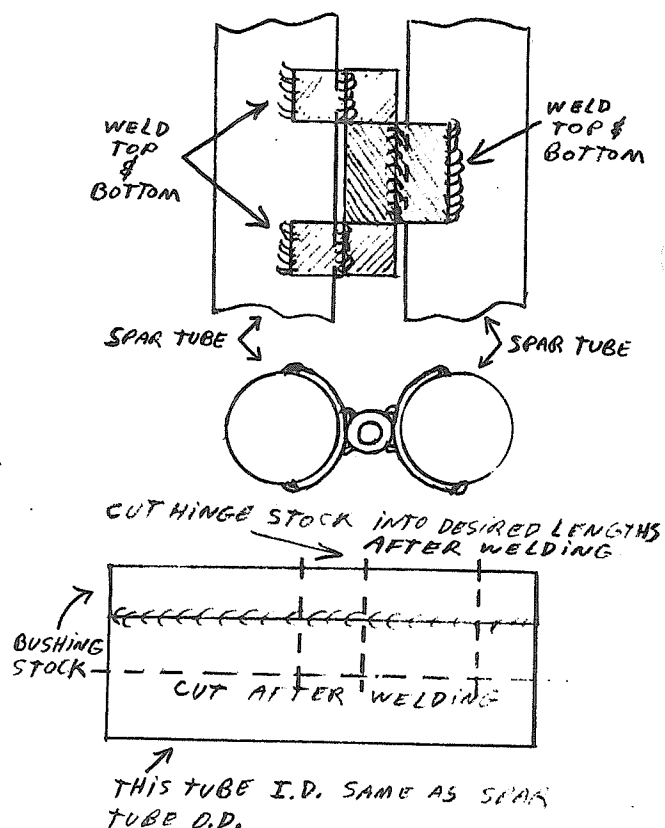

FIG. 1
**SONERAI, CONTROL SURFACES** - The rudder and elevator surfaces use a welded type of hinge, which, in the plans, is shown as lengths of bushing stock welded directly onto the spars of the stabilizer and control surface. There is another method that can be used that makes the process of alignment a little easier, and it automatically spaces the hinge away from the spar tube a sufficient amount for fabric clearance. As can be seen in figure 1, a long length of the hinge stock can be made up ahead of